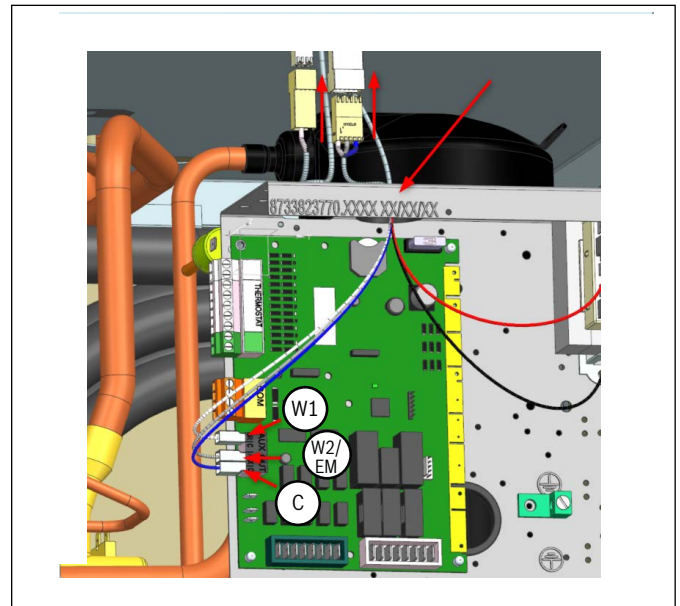

Figure 38
8. Continuing with the EH wiring harness, take the loose white, grey and blue wires (W1 and W2 and C), and feed them through the same hole into the unit control box. Connect wire labeled W1 to SR, W2/EM TO AUX and C to C respective terminals on the HPC as shown in figure 38 below.